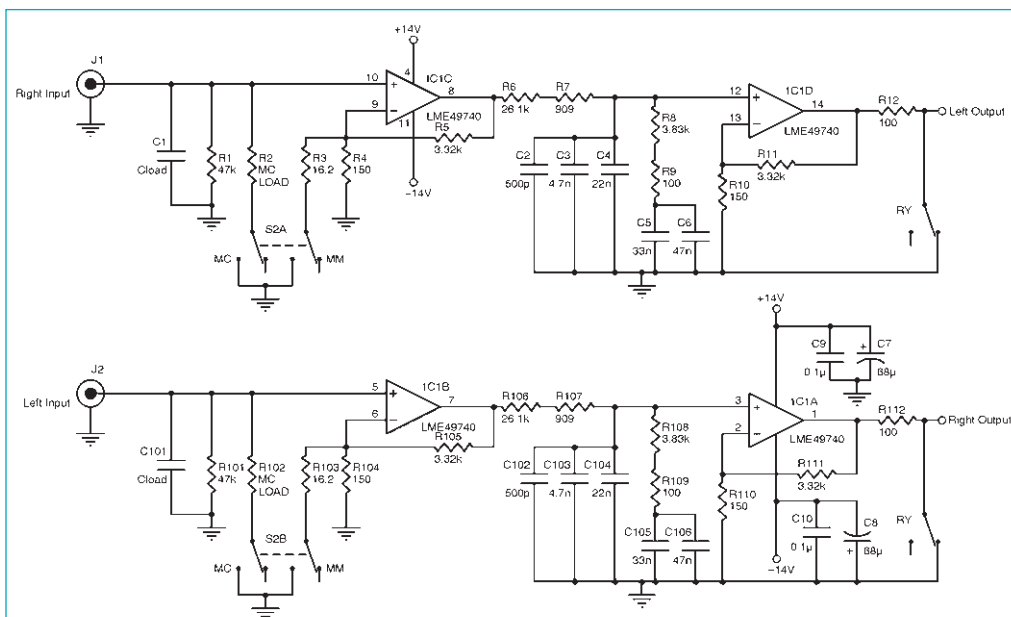

Figure 2: The preamplifier schematic shows changes made to accommodate the moving coil cartridges, cartridge loading, and output muting.
**Figure 2** shows the modified circuit. The topology is simple. There is a linear gain stage at the input, followed by a passive Recording Industry Association of America (RIAA) filter, followed by a linear output gain stage. The passive filter consists of resistors in series and capacitors in parallel to closely achieve the proper component values. I used the values specified in the datasheet with excellent results. (The TI LME49740 datasheet is available at [www.ti.com/lit/ds/symlink/lme49740.pdf](http://www.ti.com/lit/ds/symlink/lme49740.pdf).) It includes the phono preamplifier schematic with specified values. Other combinations are valid. A comprehensive explanation of passive RIAA filters can be found on Wayne Stegall's website